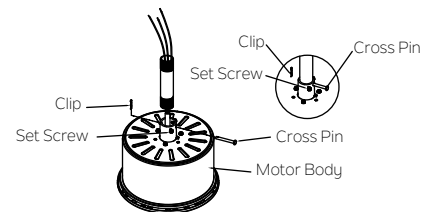

Fig. 7
Step 3. Loosen the two set screws and remove the cross pin and chip from the top coupling of the motor body. Carefully feed the fan wires and safety cable up through the downrod. Thread the downrod onto the motor coupling until the cross pin holes are aligned. Next, replace the cross pin and clip, and tighten both set screws. (Fig. 7)